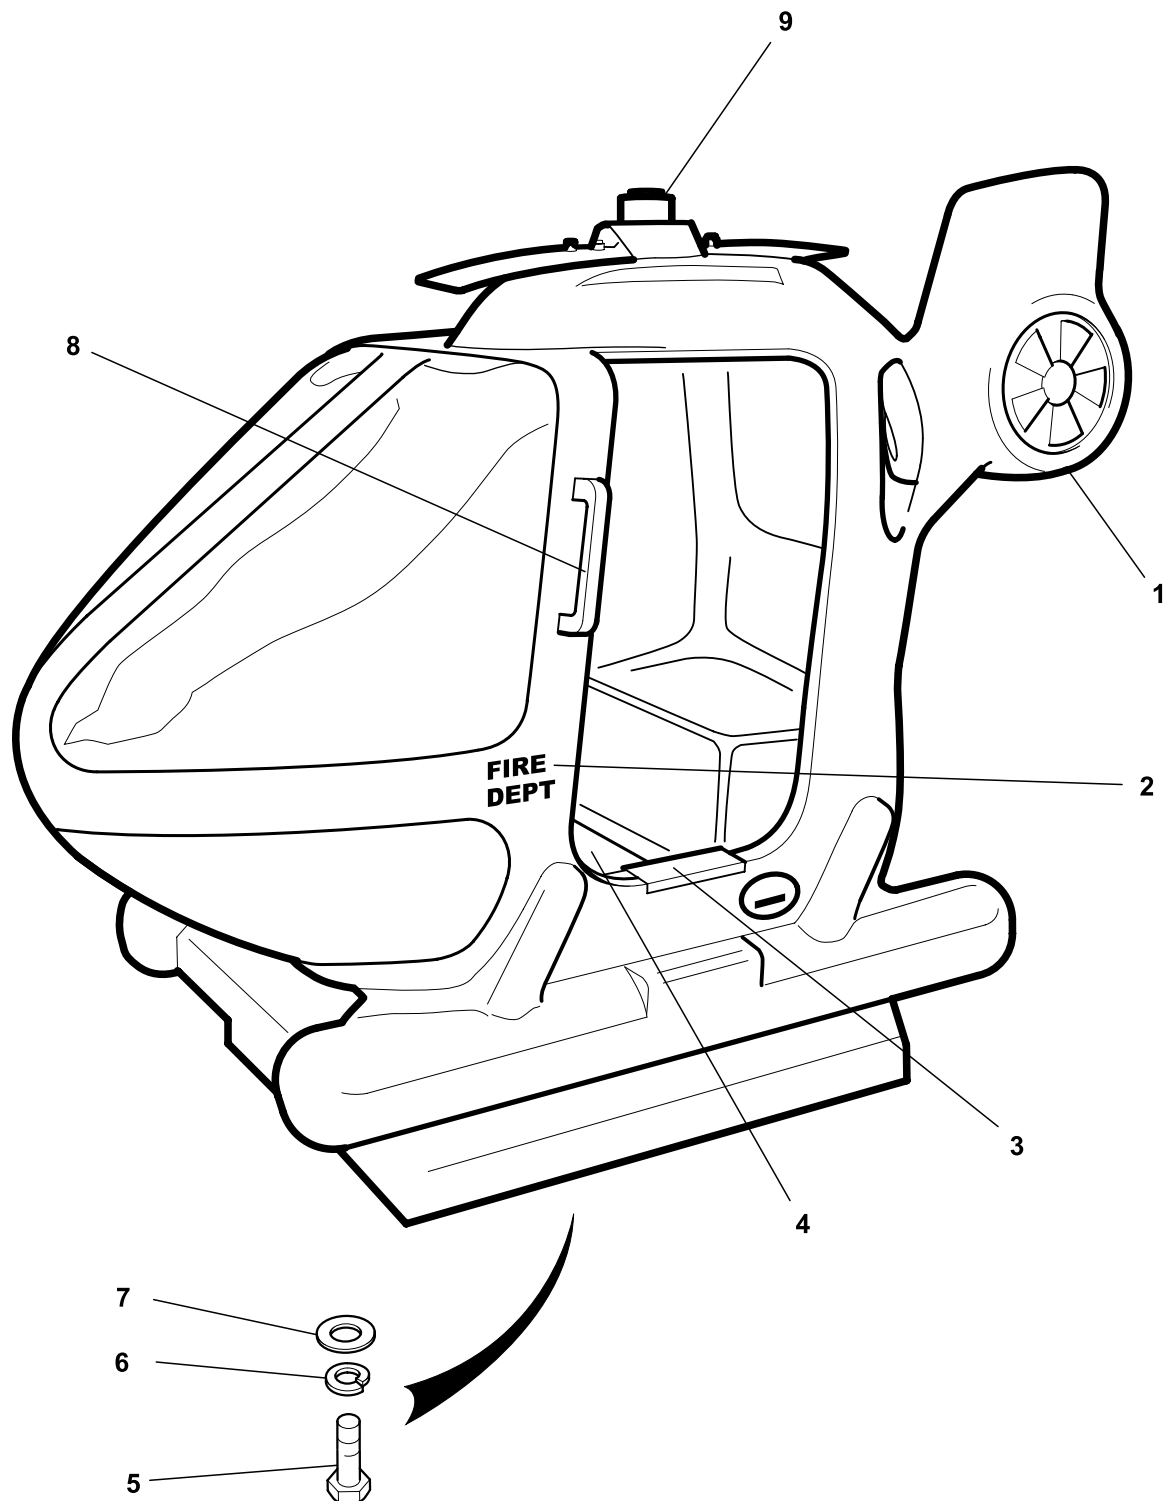

Fig 5 Body shell assembly
Refer to Figure 5 in Spare Parts section for item numbers.
4.19.1 Remove the four bolts, (Fig 5, item 9) spring washers (Fig 5, item 10), and washers (Fig 5, item 11) situated under the body shell, which attach the body to the chassis.